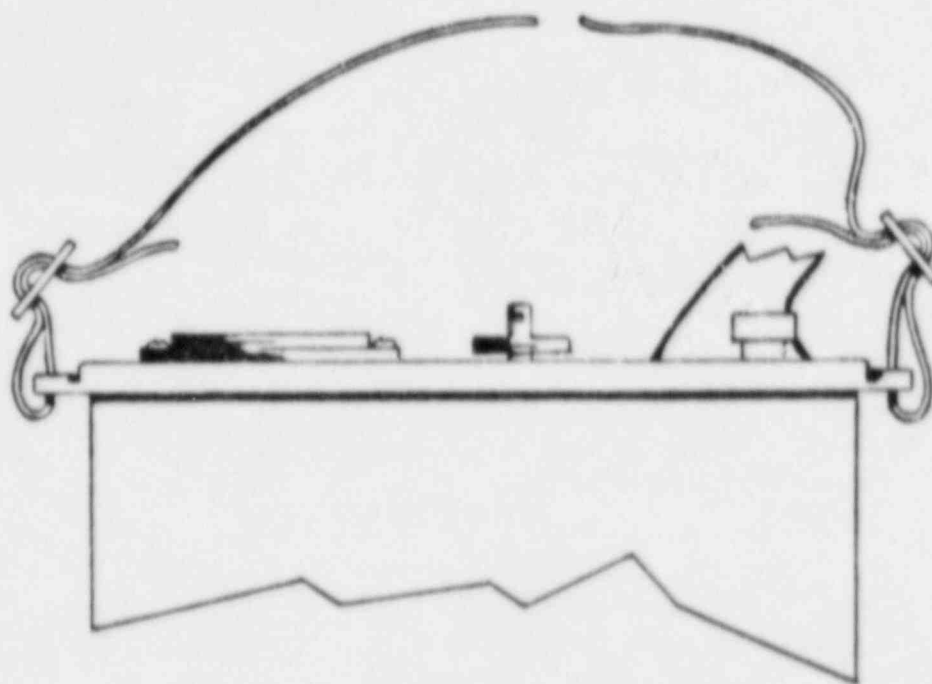

Figure 2. Attachment of Carrying Strap
2.4 Use of Carrying Strap - A vinyl carrying strap with its attaching strap buckles is optional. The strap anchors are arranged in such a way that the meter is unobstructed when the instrument is carried from the shoulder. Refer to Figure 2.